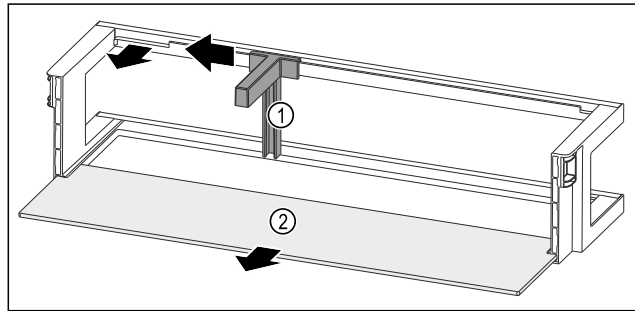

Fig. 65 Door rack with bottle holder and shelf
- ▶ Slide the bottle holder Fig. 65 (1) to the side as far as the recess.
- ▶ Remove the bottle holder Fig. 65 (1).
- ▶ Remove the shelf Fig. 65 (2).